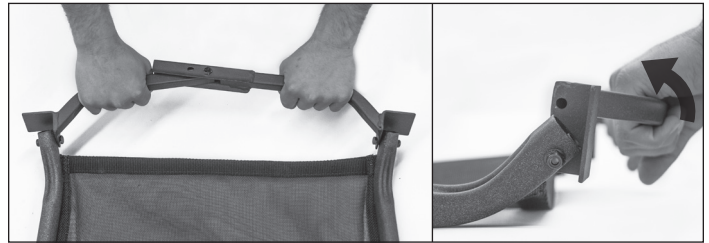

FIGURE 10a - Front hinged brace in vertical position
g. Rotate the front hinged brace towards the seat to lock the brace in position. **SEE FIGURES 10a and 10b.**